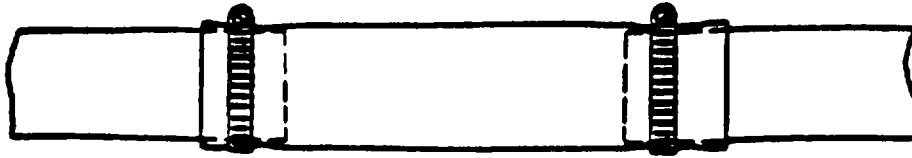

Figure 6-10. Substitute Hose as Sleeve.
- (2) Option 2: Substitute hose.
- (d) Slip the substitute hose over the ends of the damaged hose or tube (figure 6-10.).